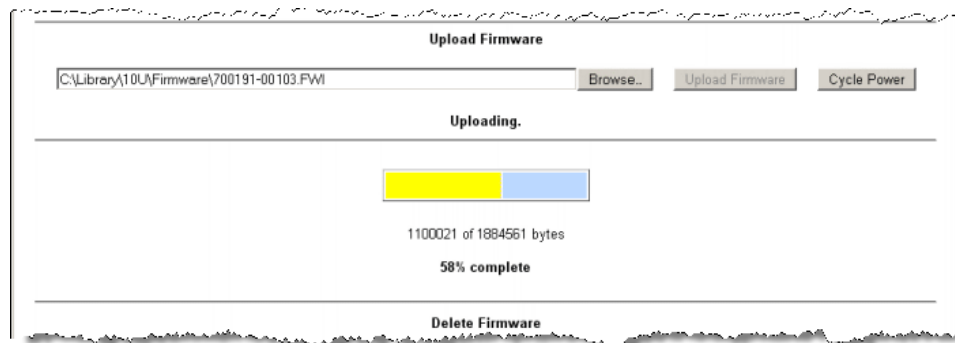

Figure 8-3 Sample of the Library Firmware Upload Progress Screen
4. A progress screen will appear as the uploading process proceeds. See Figure 8-3.